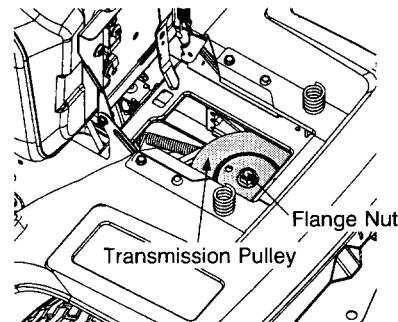

FIGURE 23
- Locate the transmission pulley through the battery tray opening. See Figure 23.